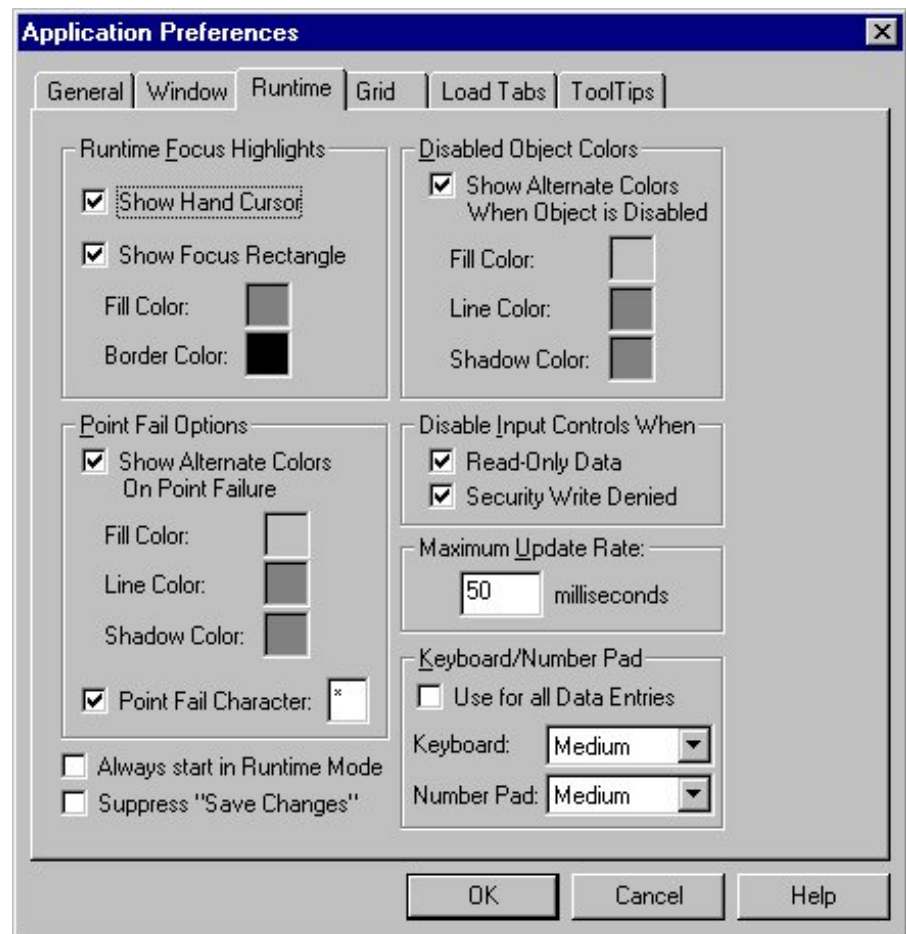

Figure 4-7: Application Preferences: Runtime Tab
2. Select the Runtime tab (Figure 4-7).